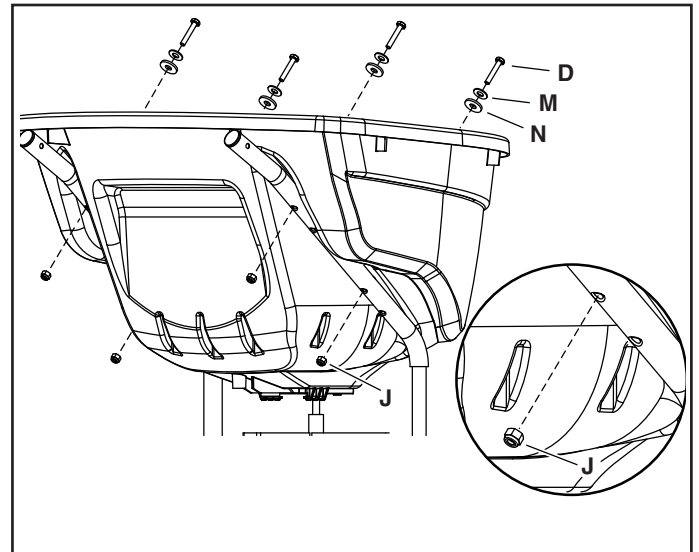

FIGURE 8
STEP 8: (SEE FIGURE 8)
- Attach the hopper to the upper set of holes in the hopper support tubes using four 1/4" x 1-3/4" hex bolts (D), 1/4" washers (M), nylon washers (N) and 1/4" nylock nuts (J). **Make only finger tight.**